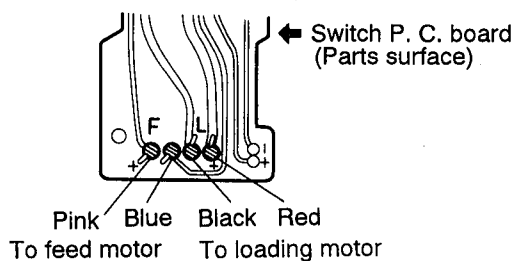

Fig. 4-10-1.
7. From the soldered surface of the switch P.C. board, remove the blue and pink wires outgoing from the feed motor while raising the switch P.C. board (See Fig. 4-10-1).
8. From the soldered surface of the switch P.C. board, remove the red and black wires outgoing from the loading motor similarly as in Item 7 above (See Fig. 4-10-1).